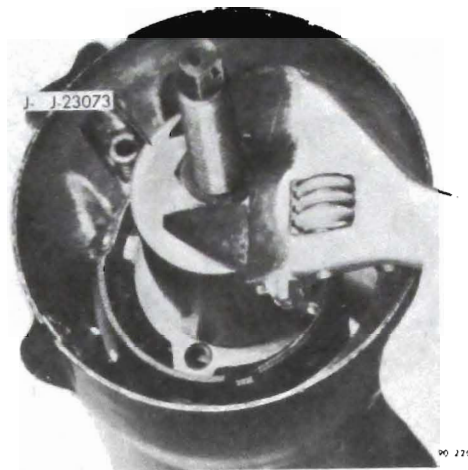

Figure 90-149 - Installing Shift Tube
10. Carefully install shift tube in lower end of mast jacket. Align keyway in tube with key in bowl and using Installer J-23073, pull shift tube into bowl. See Figure 90-149.